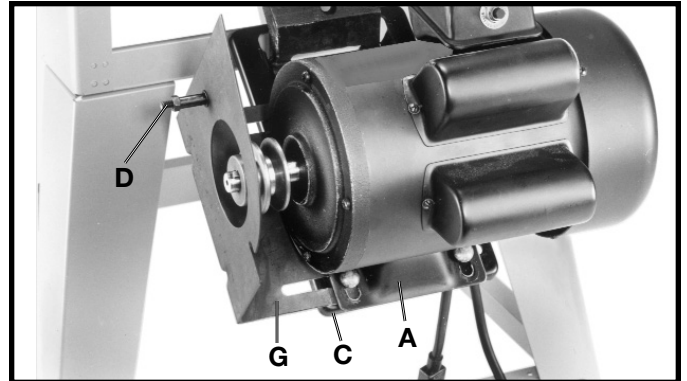

Fig. 22
4. Slide the belt and pulley guard bracket (G) Fig. 22, between the motor plate (A) and motor mounting plate (C), as shown.
5. Place a 1/4" external tooth lockwasher onto a 1/4-20x1-1/2" hex head screw. Insert the screw (D) Fig. 22, through the hole in the belt and pulley guard bracket (G) as shown in Fig. 22.